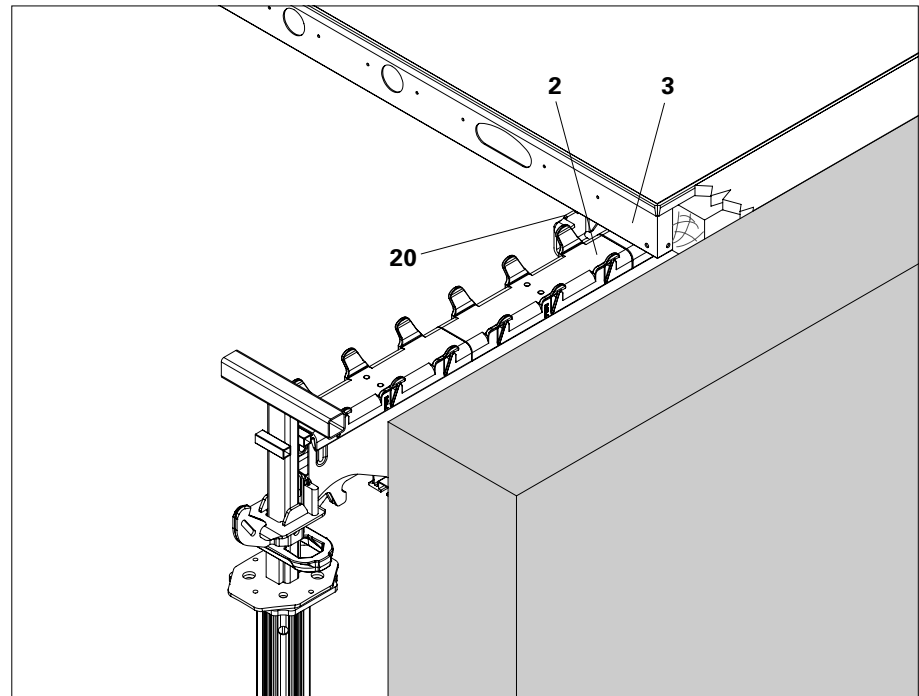
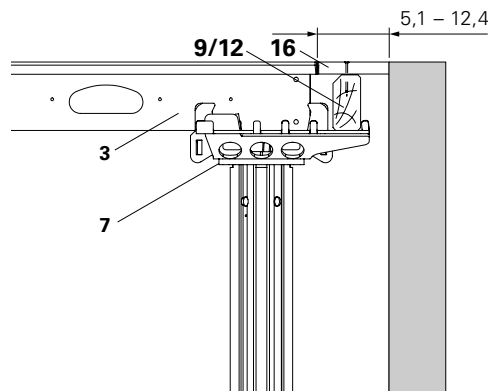

Fig. A5.35
Fig. A5.36
2. Nail Filler Timber SPH (12) or timber (13) up to max. 6 cm on the panel. (Fig. A5.35) Screw Filler Timber SPH (12) or timber (13) up to max. 12 cm on the panel. (Fig. A5.36)
3. Install formlining (16) and secure with nails.
1. Position Combihead SCK (7) with cantilever in the direction of the infill.
2. Install Panel (3).
3. Install Edge Beam SRT-2 (9) or Filler Timber SPH (12) in the Combihead (7).
4. Install formlining (16) and secure with nails. (Fig. A5.36)